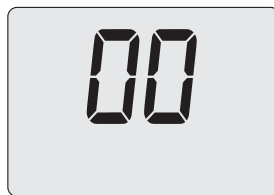

Figure 5.34
- Press 16 (Figure 5.31) to show the value of parameter P07 on the LCD display (Figure 5.34).